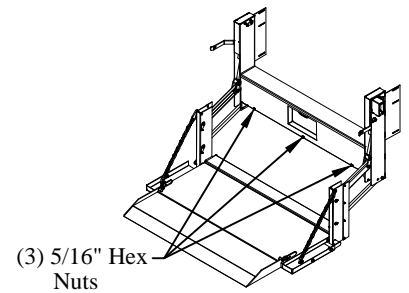

Figure 14: Box cover locations.
1. **Remove** the box cover by removing the 5/16" hex head nuts (Figure 14).